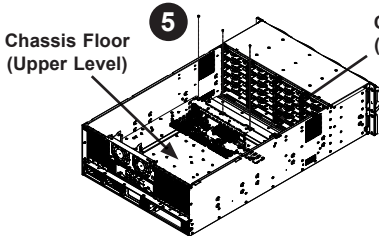

Figure 4-27: Removing the Screws Securing the Power Distributor Board Bracket
10. Secure the power distributor board bracket by using the three screws previously set aside as shown in Figure 4-27.